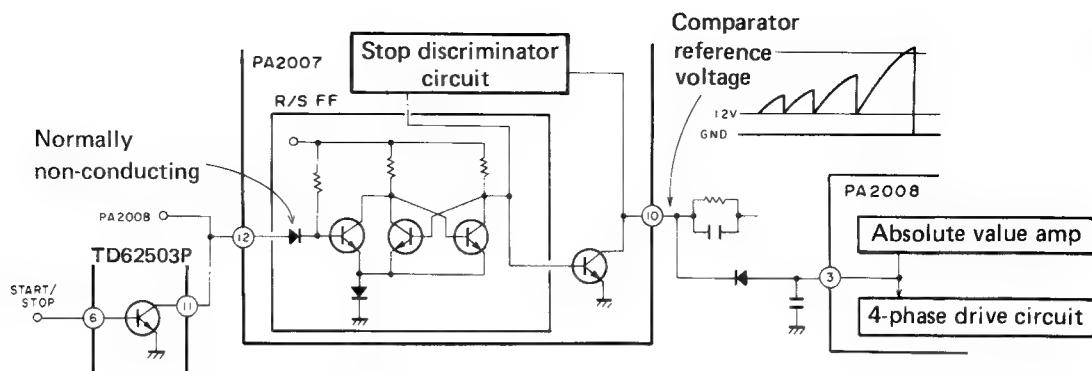

Fig. 12-6 Stop discriminator theoretical circuit
- The stop discriminator circuit functions to detect low or high rotation speed through the charge/discharge status of capacitors and resistors connected to IC PA2007 pin 10 (To/STOP), and when rotation drops below a certain speed, motor torque is dropped to zero. A theoretical circuit diagram is shown in Fig. 12-6.